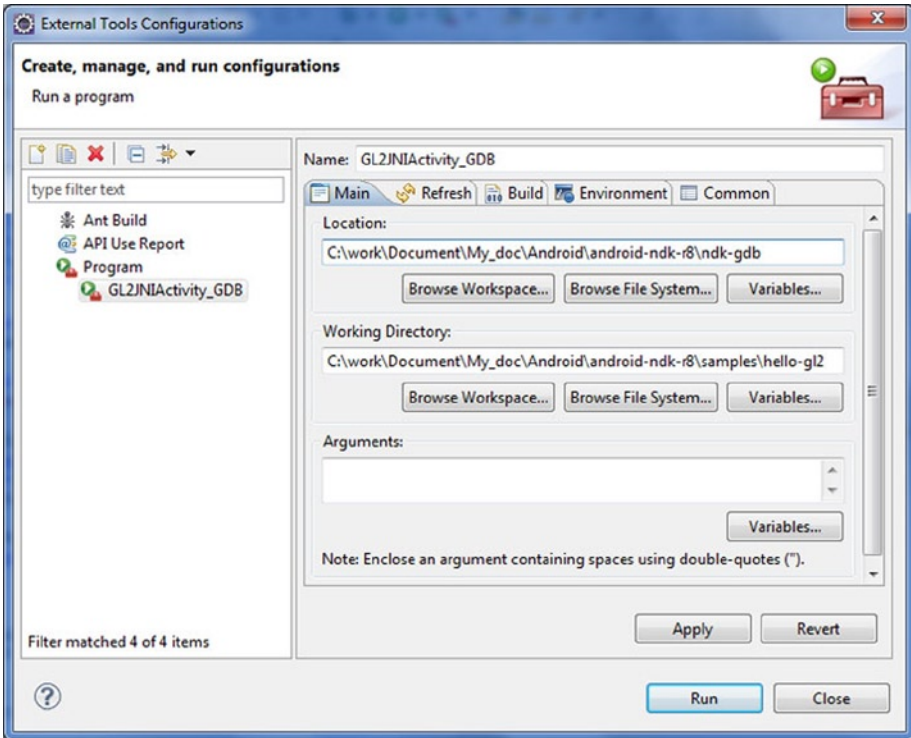

Figure 8-25. *External Tools Configurations*
- In the Eclipse main menu, go to `Run | External Tools | External Tools | Configurations` (see Figure 8-25), and create a new configuration `GL2JNIActivity_GDB`. This configuration will launch GDB server on the device.